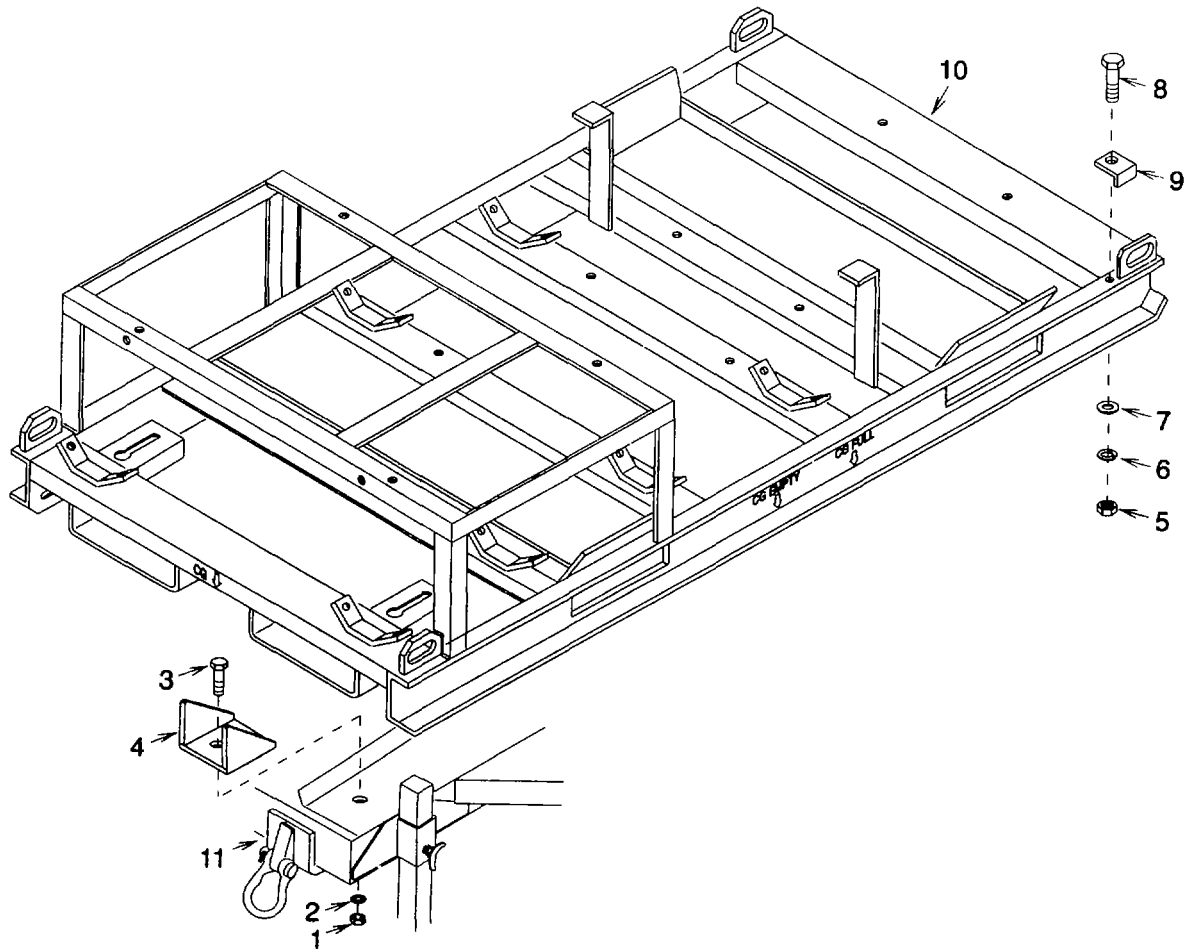

Figure 5-5. Skid Frame
**General Safety Instructions****WARNING****Frame can swing while suspended from a lifting device causing injury to personnel and/or damage to equipment.****NOTE****Disassemble equipment only to extent necessary for repair.****a. Removal** (See figure 5-5.)
(1) Remove two nuts (1), lock washers (2), screws (3), and keepers (4).
(2) Remove 10 nuts (5), lock washers (6), flat washers (7), screws (8), and hold down clamps (9).
(3) Using lifting device, lift skid frame (10) off trailer (11) and lower to floor or ground.